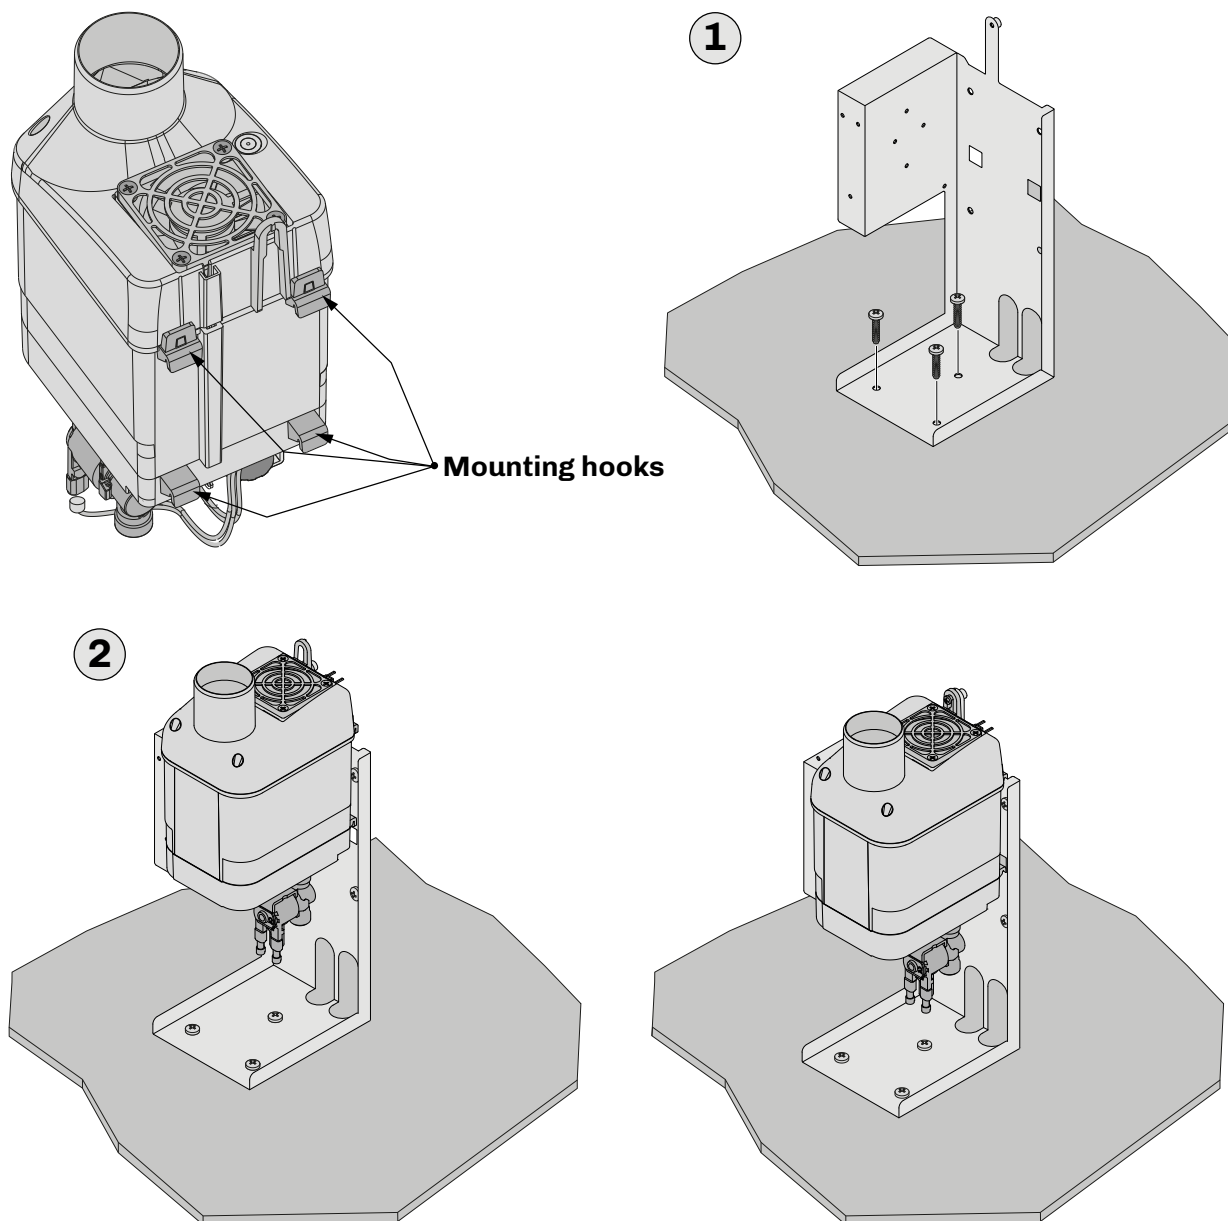

**Fig. 9.** Instructions for mounting the box on a wall
- Secure the box to the wall following the instructions given in the picture "**FIG. 9. INSTRUCTIONS FOR MOUNTING THE BOX ON A WALL**" ON PAGE 21 and the dimensions of the holes and box given in the subsection "**4.3.2 DIMENSIONS OF MISTRAL WITH BOX**" ON PAGE 15 (1);
- Attach the **Mistral** humidifier to the box, making sure it is secure (2);
- Secure the humidifier to the wall where it is mounted using an M4 flat-head screw, which is appropriate for the fixing wall (3).